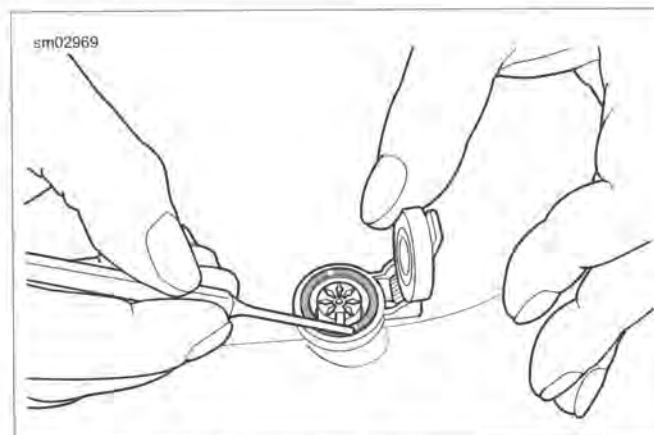

Figure 7-90. Remove Lock Ring from Receptacle
2. See Figure 7-90. Place pin punch in either notch of lock ring and rotate counterclockwise to loosen.
4. See Figure 7-90. Place pin punch in either notch and rotate lock ring clockwise until tight.